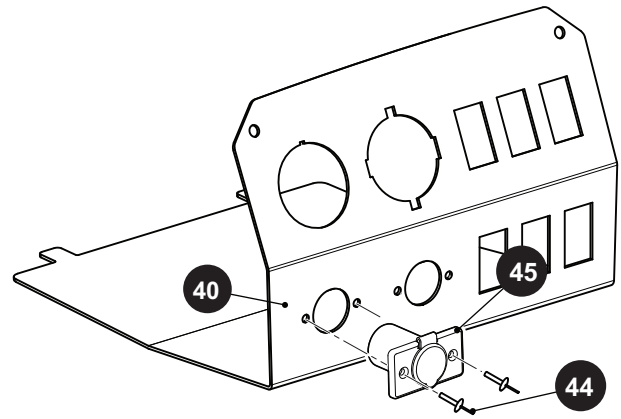

Fig. 18 12V Outlet
1. Drill out the two rivets securing the 12V outlet (45) to the gauge panel (40).
2. Gently pull the 12V outlet (45) through the front of the gauge panel (40) until the push on connectors are accessible.
5. Install the 12V outlet into the gauge panel using new rivets (Ref. Fig. 18).